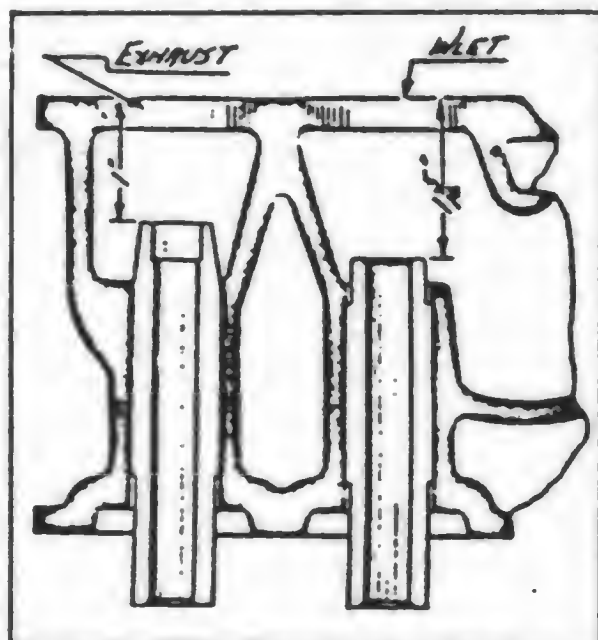

FIG. 21 POSITION OF VALVE GUIDES
(3) The exhaust valve guide is installed in the cylinder block so that there will be a distance of 1" from the top of the guide to the top of the block. The intake valve guide is set at  $1\frac{1}{4}$ " from the top of the valve guide to the top of the block, (Fig. 21).
(4) The valve tappet clearance in the guide should be .0005" to .002". It is advisable to check the clearance of the valve tappet by moving it back and forth in the guide. If the clearance seems to be excessive, it might be necessary to install a new valve tappet. This operation is covered in this section under paragraph 29.